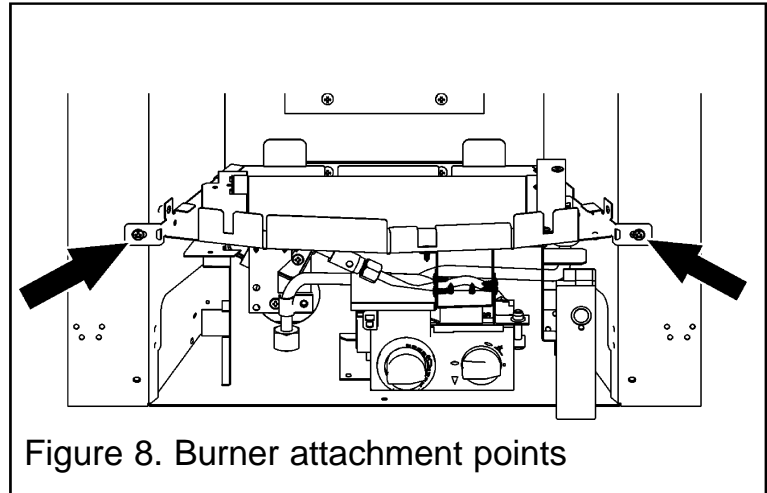

Figure 8. Burner attachment points
3. Detach the burner unit from the hotbox by removing two screws (See figure 8). Lift the burner unit clear.